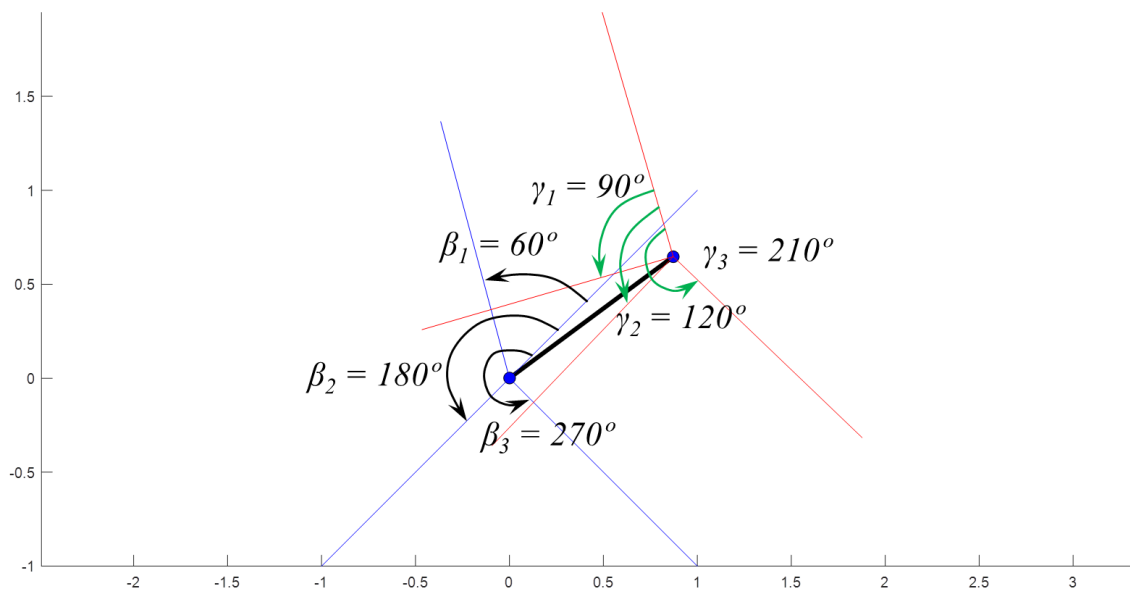

Figure 7. Definition of Precision Points for Function Generation
- Design a mechanism that will control the output link as a function of the input link as shown in Fig. 7. Use the partially written Matlab file MSE\_211\_Lab\_2\_function\_generation.m